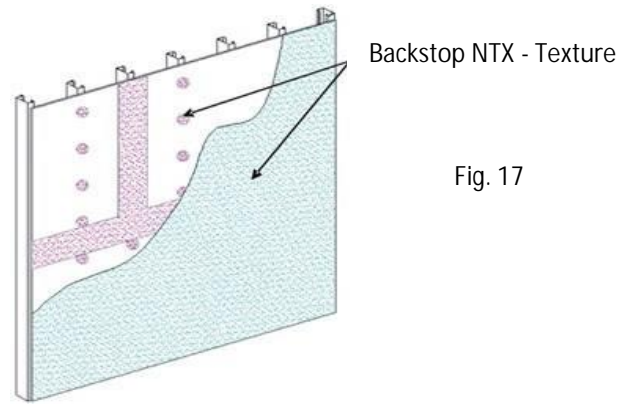

Fig. 17
- c. Use a coarse, open-cell foam roller cover with a 3/8 in (9.5 mm) foam nap (FoamPRO #58 roller). Apply a uniform, continuous film of Backstop NTX – Texture over the entire surface of the sheathing, concrete or masonry, including the previously treated areas – Figure 17.